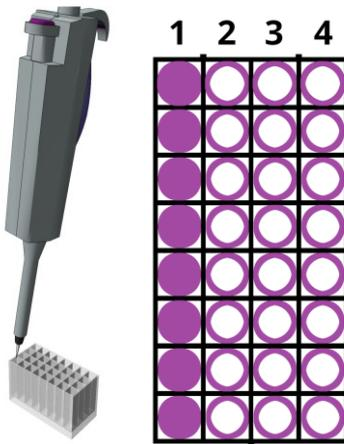

Figure 1. Sample setup.
4. Pipet 200 μ l sample into the bottom of **column 1** according to Figure 1 (marked in purple).